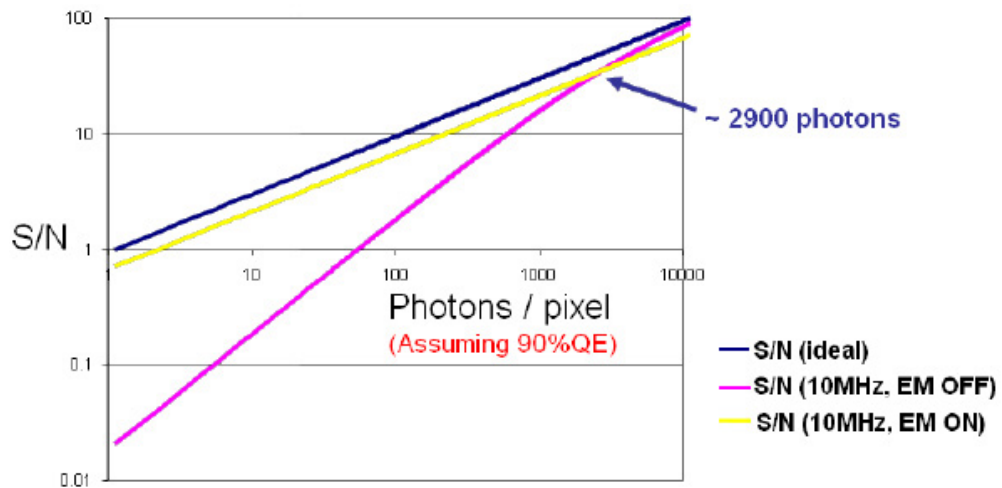

Figure 11: Signal to noise plots EM Gain ON vs. EM Gain OFF for backilluminated iXon Ultra EMCCDs at 10 MHz readout speed
Signal to Noise (S/N) plots derived from the specifications of the back-illuminated iXon Ultra EMCCDs (Figure 11), read out at 10MHz for a photon wavelength at which the Quantum Efficiency (QE) of the sensor is assumed to be 90%. Such plots are very useful to gauge at what signal intensity it becomes appropriate to use EM Gain to increase S/N.